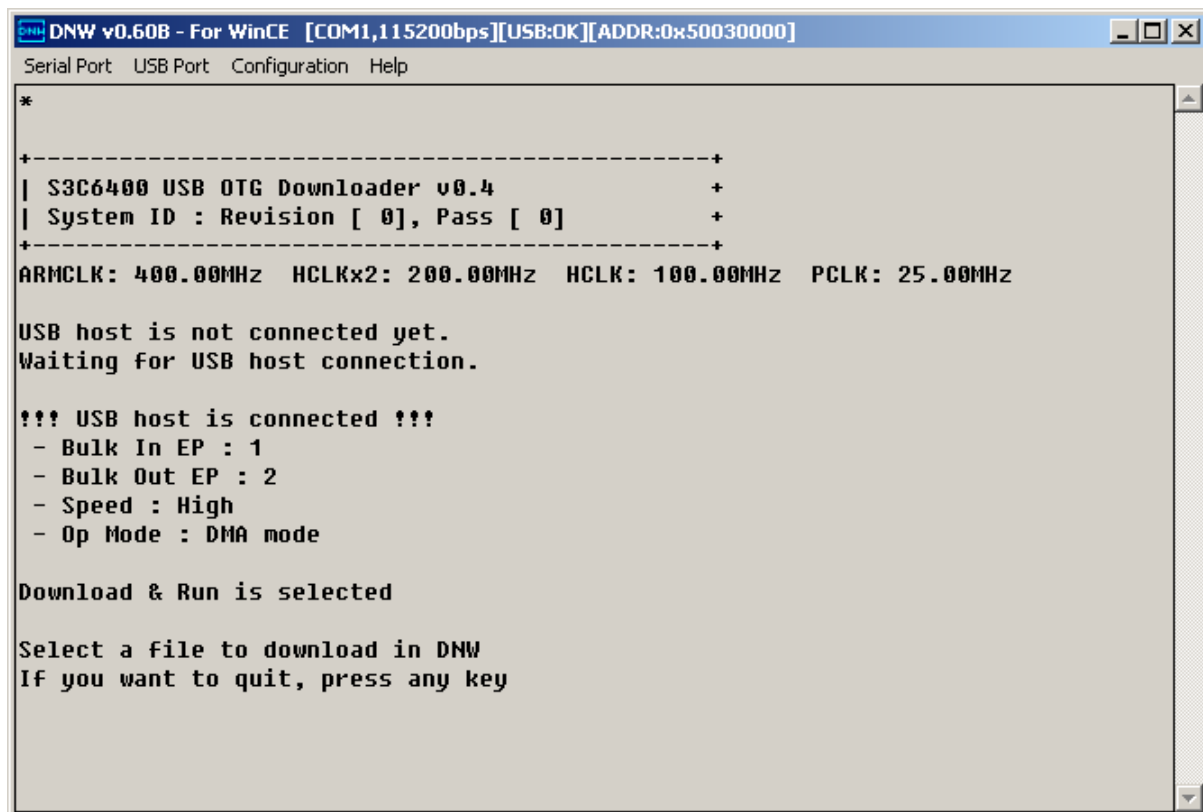

Figure 7-4 DNW Window after reset
8. Reset the board. DNW window appears as shown in figure 7-4.